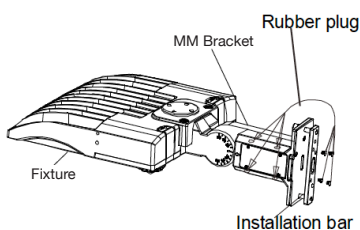

Fig. 18
1. Remove the four bolts from the MM bracket, remove the four rubber plugs from the installation bar, put the four rubber plugs on the place where the four bolts were previously placed on the bracket for waterproofing (Fig. 18).